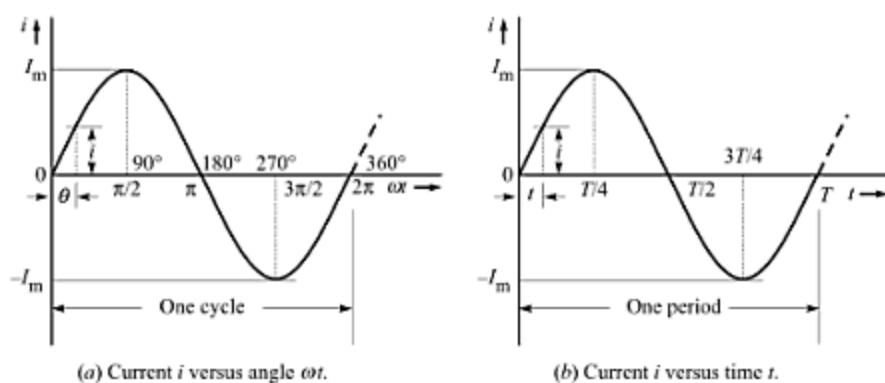

Fig. 9.1 A sinusoidal current.
Today, the vast majority of electrical power is generated, distributed, and consumed in the form of ac power. The term 'ac' means 'alternating current'. Such a current reverses its direction *periodically*. In ac power, the voltages and currents vary with time *sinusoidally*. Such a variation is shown graphically in Fig. 9.1, and is mathematically represented as
Sine wave is the basic waveform used in ac circuits. Let us therefore define certain terms associated with sinusoidal waveform, shown in Fig. 9.1.
**(1) Cycle** The values of sine wave repeat after every  $2\pi$  radians. One complete set of positive and negative values of the function (which goes on repeating) is called a *cycle*. As seen in Fig. 9.1, in one cycle the value of current  $i$  increases from zero to a maximum value, decreases through zero to a negative maximum value, and then again increases towards zero.
**(2) Maximum (or Peak Value)** It is the maximum value (denoted as  $I_m$ ), positive or negative, of the quantity. It is also sometimes called the *amplitude* of the sinusoid.
**(3) Instantaneous Value** It is the value of the quantity at any instant.
**(4) Time Period (or Periodic Time)** It is the duration of time required for the quantity to complete one cycle. It is denoted as  $T$ .
**(5) Frequency** It is the number of cycles that occur in one second. It is denoted as  $f$  or  $v$ . The unit of frequency is hertz (Hz) which is same as cycles/second. Obviously, frequency is the reciprocal of time period,
Consider the full cycle of a sinusoidal wave shown in Fig. 9.1. It has same area of the positive and negative loops. Hence, the algebraic sum of the two areas is zero. Accordingly, *the average value of a sine wave over a full cycle is zero*. This average value does not convey any useful information about the waveform. Therefore, for a sinusoid, we define average value over half-cycle only. In fact, whenever we talk of the *average value of a symmetric periodic waveform*, it is understood to be determined for only half-cycle, either positive or negative.